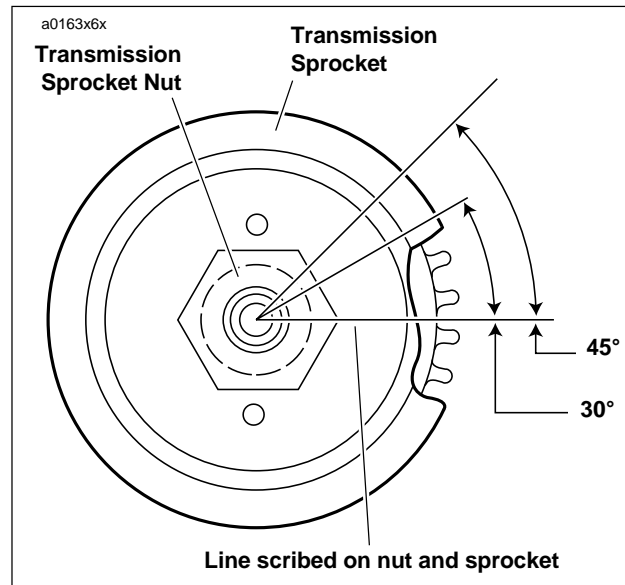

Figure 6-66. Aligning Transmission Sprocket
- See Figure 6-66. Scribe a line on the transmission sprocket nut and continue the line on the transmission sprocket as shown.
- See Figure 6-66. If lockplate will not align with holes, tighten nut to 45° maximum.